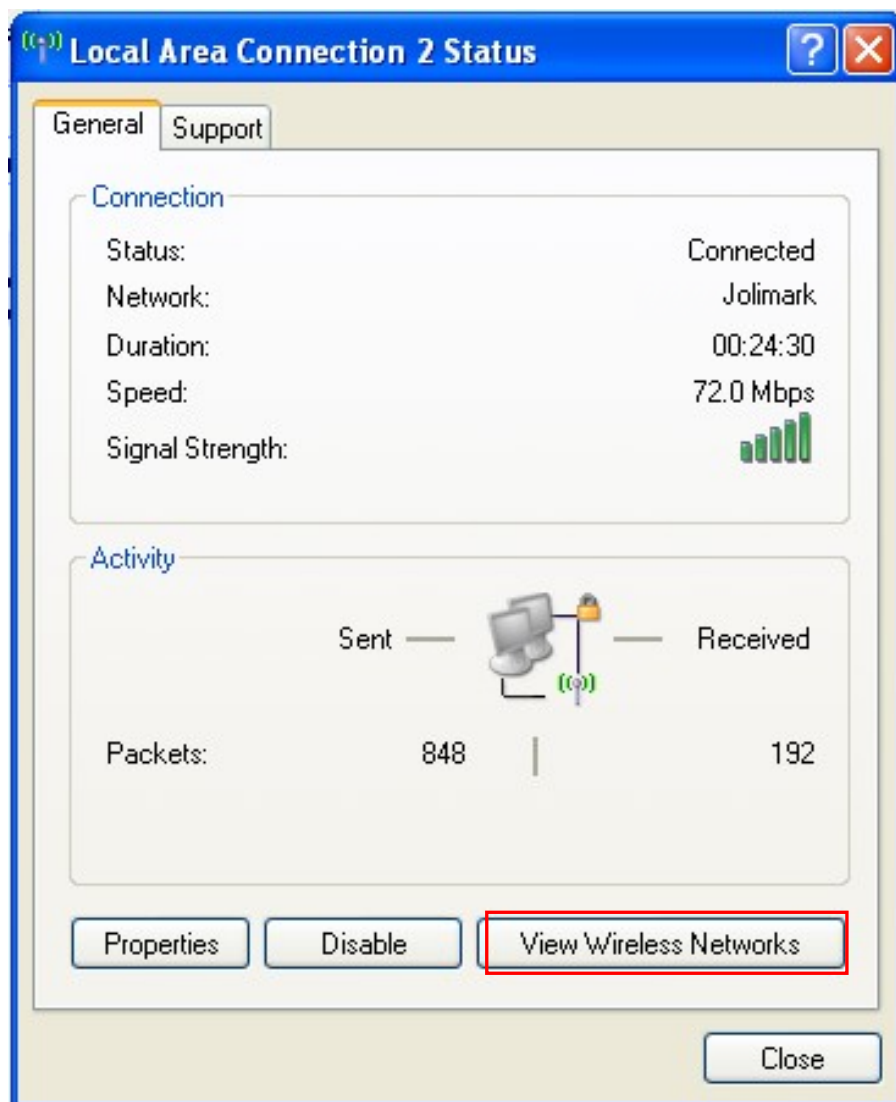
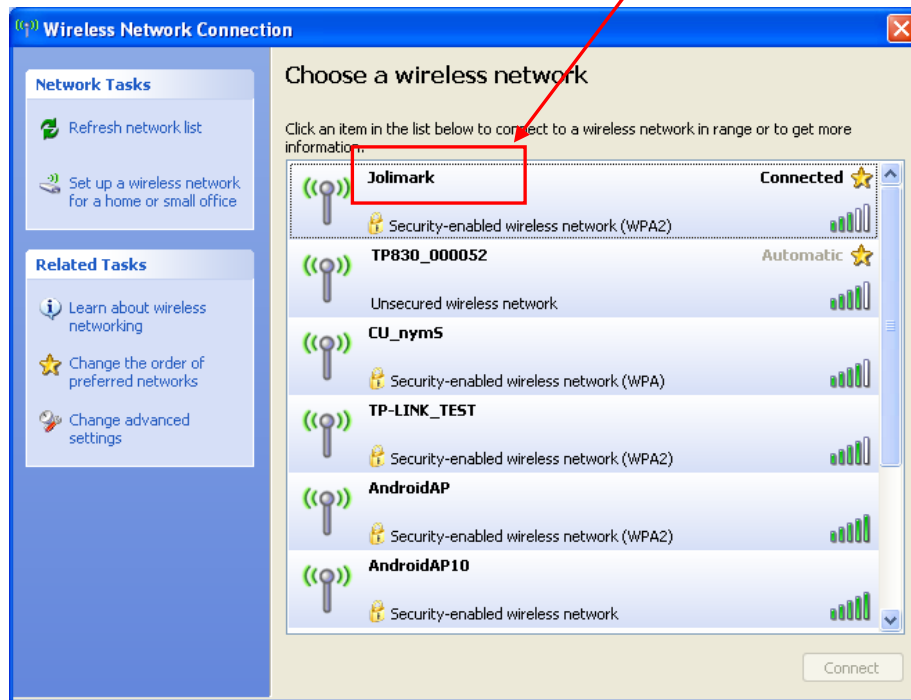

Figure 13
Figure 14
- ⑥ Close the windows in turn, then the dialog box "Local Area Connection 2 Status" pops up according to the operation of step ①, click "View Wireless Networks" (as shown in Figure 13). When the window of "Wireless Network Connection" pops up, double click the current hotspot and the connection will be disconnected (as shown in Figure 14).